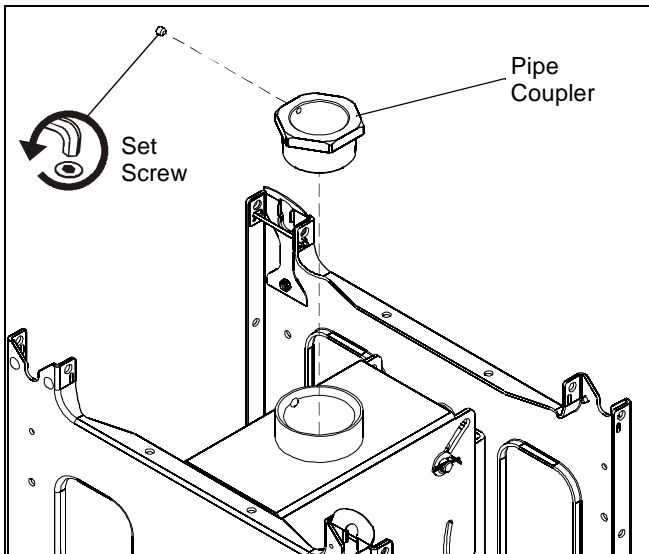

Figure 1
- If NPT pipe is 2", loosen set screw and remove the 1-1/2" to 2" pipe coupler, then proceed to Step 3.(See Figure 1)